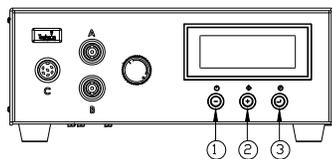

Figure 9.0
5.5 CYCLE COUNTER (Refer to Figure 9.0)
### 5.6 TO CHANGE PRESSURE UNIT DISPLAY (Refer to Figure 9.0)
### 5.7 LOW PRESSURE SETTING (Refer to Figure 9.0)